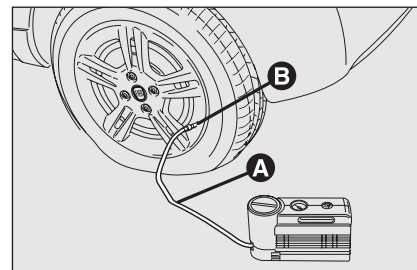

fig. 5
- ❑ **Pull up the handbrake.** Loosen tyre inflation valve cap, take out the filler hose **A**-fig. 5 and screw the ring nut **B** on the tyre valve;